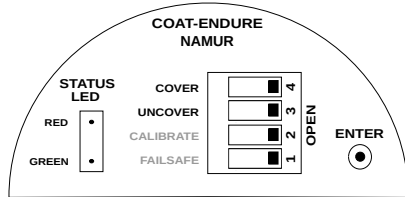

Figure 59: Saving of Low Current Configuration
- Blink the RED LED only once and release the ENTER key as per Figure 59.